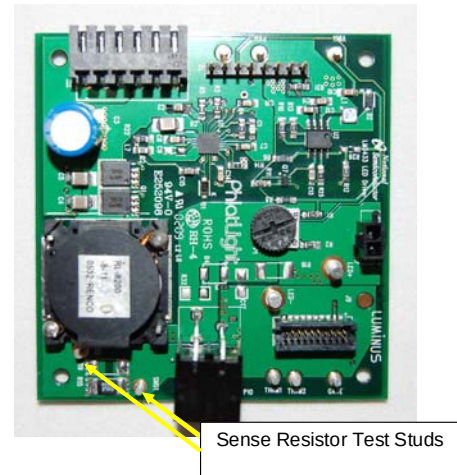
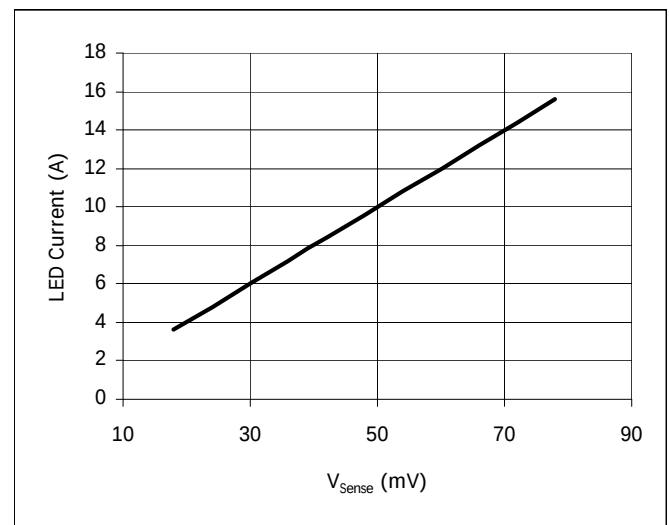

Figure 17: Sense resistor location on driver board
Figure 18: LED Current vs. V_{sense} voltage
- To measure the current going to the LED, use a volt meter and measure the voltage across the sense resistor on the driver board. For ease of probing, two test studs have been placed to the left and right of "R15". Figure 17 shows the location of the test studs on the driver board. Figure 18 shows a conversion plot between the sense resistor voltage and the current going to the LED. The current can also be calculated by the following formula: